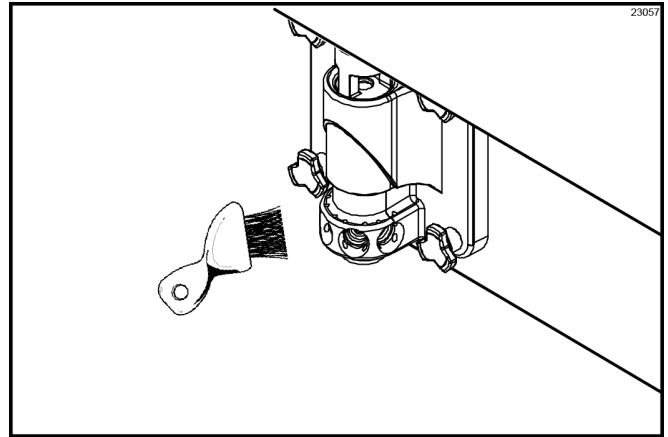

Figure-25
5. With the syrup-port brush, brush each syrup port hole 10 to 15 times. Dip the brush in sanitizing solution before brushing each port. (See Figure-25.)